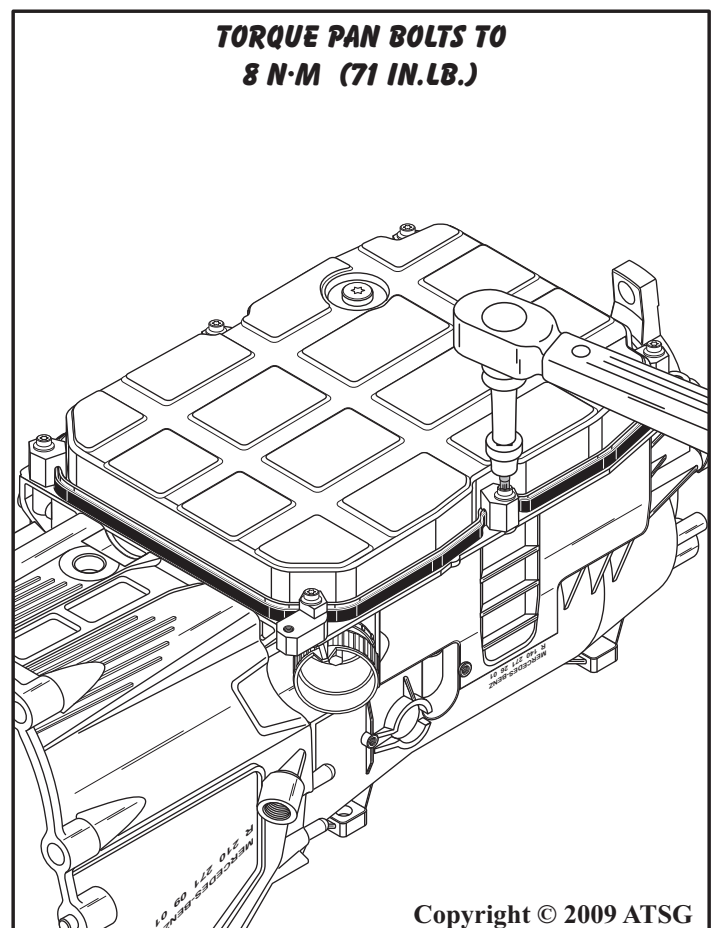

Figure 197
49. Torque all oil pan retaining bolts, as shown in Figure 197, to 8 N·m (71 in.lb.).